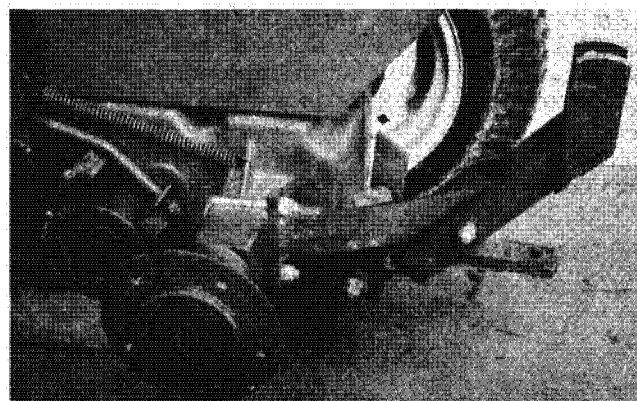

FIGURE 3
4. Fasten the brace and frame arm assembly (11, 12, 13) on the rear axle and anchor pin as shown in figure 3. Hold the anchor pin from turning with a $\frac{5}{8}$ " open end wrench over the flats on the end of the pin as the $\frac{3}{8}$ -16 x 1" Nylok bolt and $\frac{13}{32}$ " I.D. washer are tightened to hold the frame arm assembly in place.